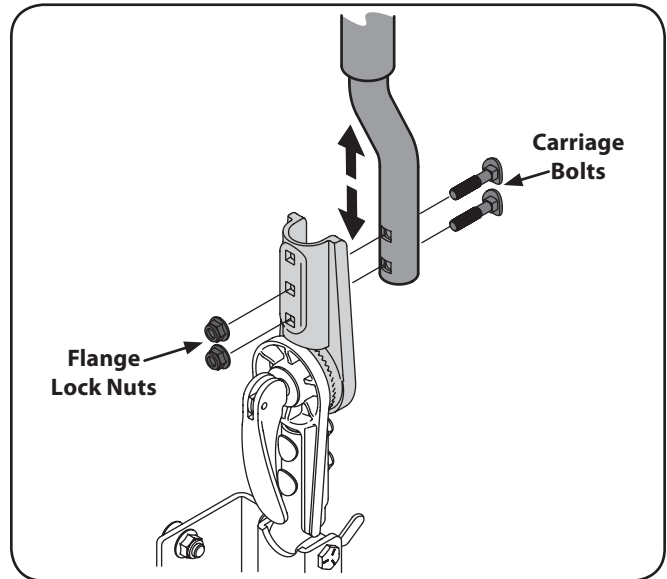

Figure 3-7
1. Remove the flange lock nuts that secure the carriage bolts in the drive control levers. See Fig. 3-7.